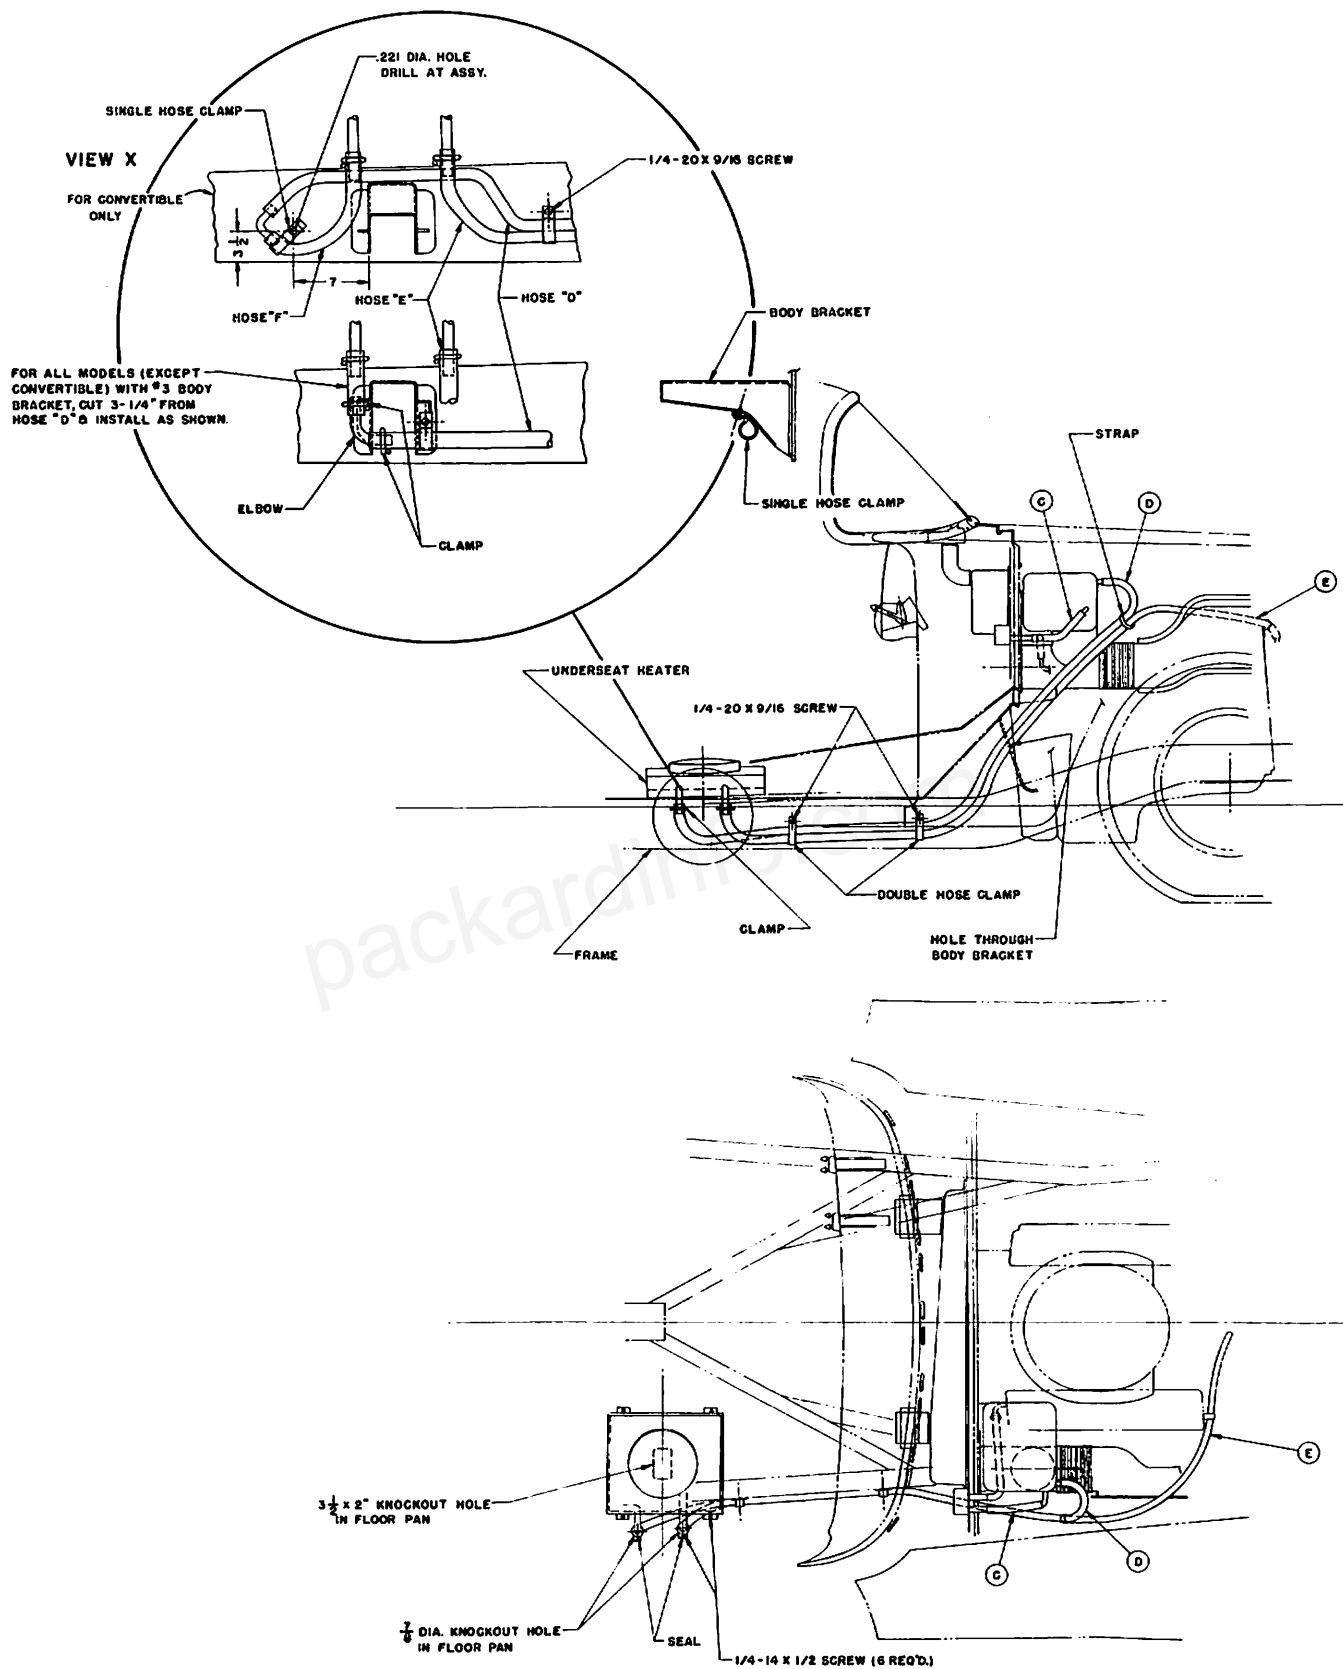

Figure 9
2. Punch out knockout holes located in floor pan under front seat on right hand side. As shown in figure 9.
4. Remove hose "B" and connect hoses "D" and "E" with hose clamps as shown in figure 9. Strap hoses "D" and "E" together with strap provided in kit. See figure 9.
5. Fasten hoses in place to frame in holes provided by using clamps and  $\frac{1}{4}$ -20 hex. hd. screws. Clamp positions shown in figure 9.
(For jobs with extra body bracket, see view "X" of figure 9.)